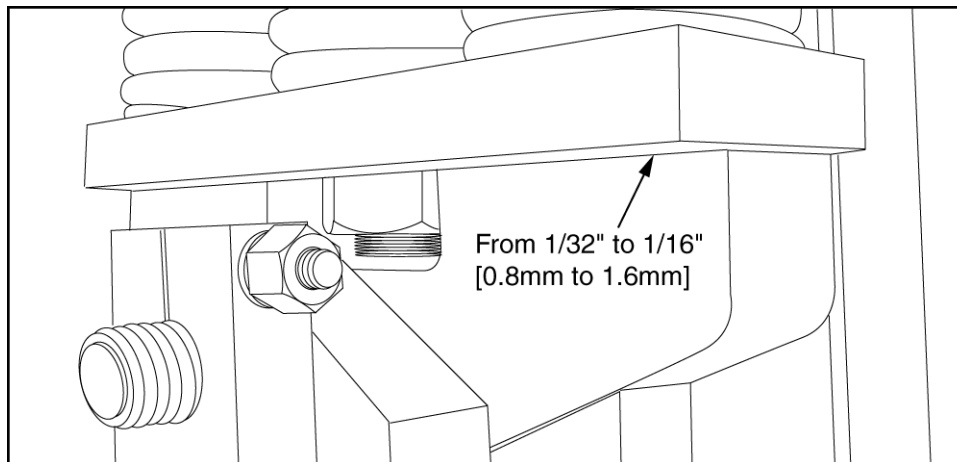

Figure 5.37 SPRING OPENING
- 5.9.2 The spring opening should be between 1/32" [0.8mm] and 1/16" [1.6mm] maximum (see figure 5.37). This is all that is required to make most units on an ULTRAPAC II.